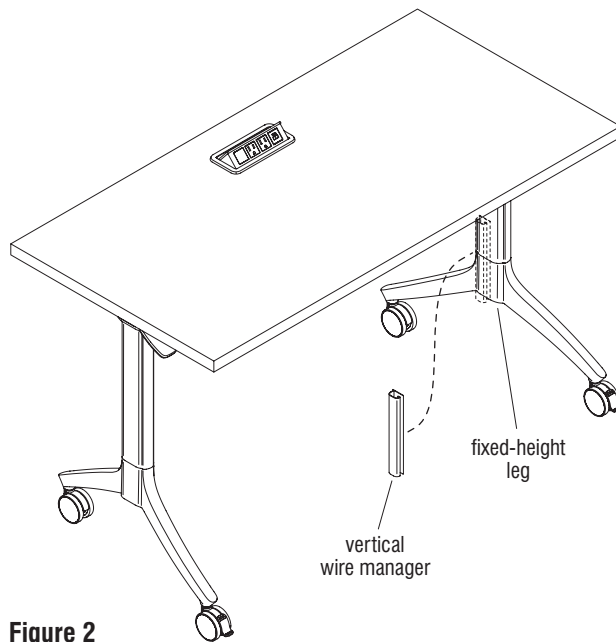

Figure 2
1. Position the vertical wire manager in the desired location against the leg which is closest to a power source. Align the vertical wire manager centered, straight along the leg, and top of the wire manager to be 2" down from the bottom of the stringer. Then mark the location of the wire manager and move the unit away (Figure 2).
2. Remove the adhesive backing from the vertical wire manager to expose the adhesive surface. Position the wire manager back to the marked location, centered on the leg, and press firmly along the adhesive area (Figure 2).